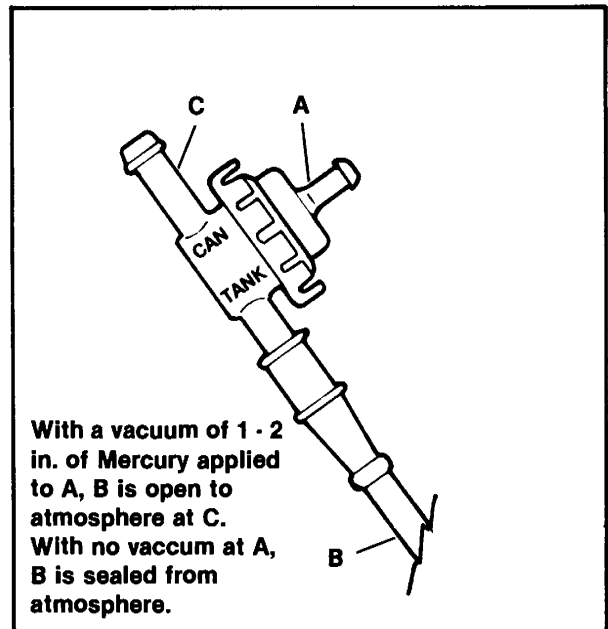

Figure 4-45. Vacuum Operated Valve
2. See Figure 4-45. To check for a leaking diaphragm and proper valve action in VOV, attach hose of VACUUM PUMP, Part No. HD-23738 to (A) on VOV as shown.
5. With vacuum applied, blow into hose (B). Valve must be open and allow air passage to atmosphere at (C).